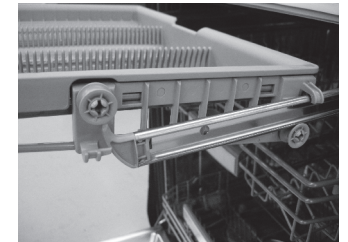

Figure 12
- While pulling toward you, lift the front of the drawer upward and outward (see **Figure 12**) until the rollers are completely free of the roller guides.